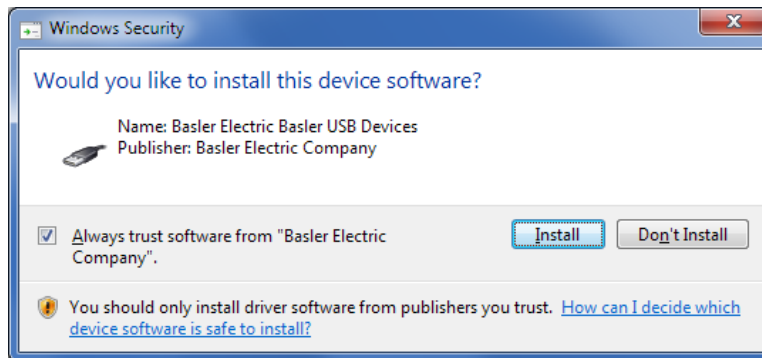

Figure 73-6. Windows Security
Step 6. If a Windows Security window (Figure 73-6) appears, click Install.